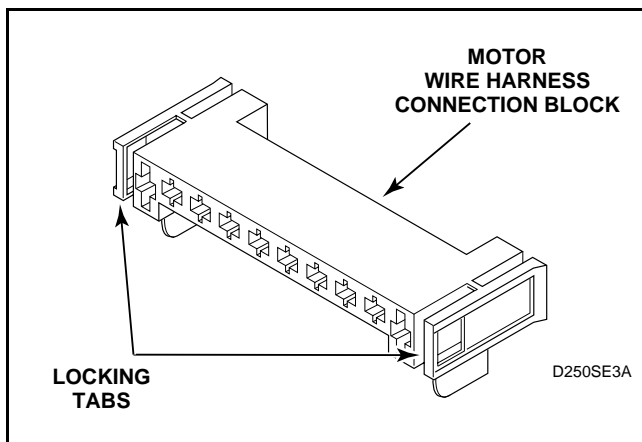

Figure 22
- (1.) Disengage motor wire harness terminal block from the motor by pressing in on the movable locking tabs (located on each side of the terminal block) and pulling away from motor. See *Figures 22* and *23*.